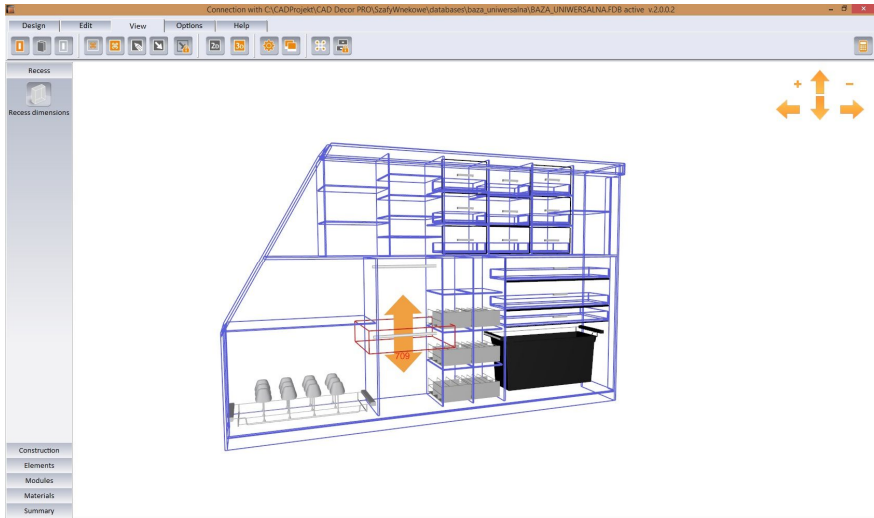

Fig. 34 - Linear view of the wardrobe in the visualisation
- **'Linear view'** - enables and disables the linear view of the wardrobe design preview (Figure 34 on the next page). Doors are invisible in the linear view.